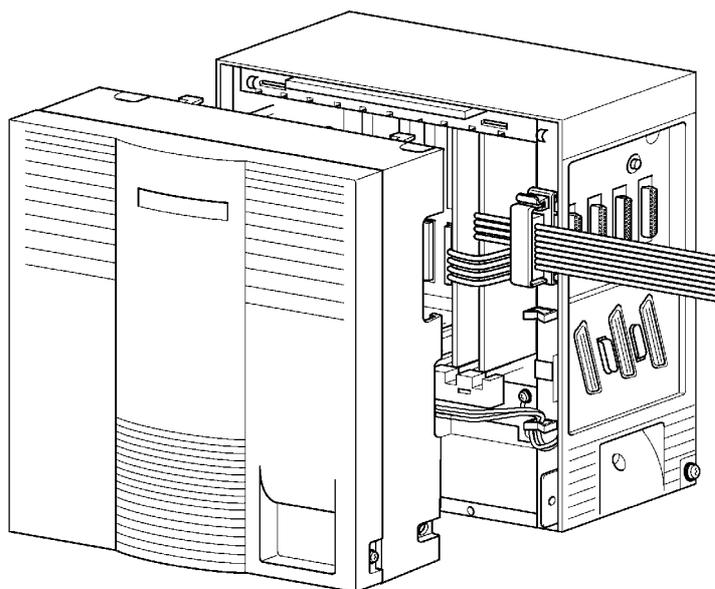

Figure 5-32 Front Cover Extender for VDH2(8)-U13 ETUs
- ① A maximum of 9 VDH2(8)-U13 ETUs can be installed in the Xen Master system (maximum of 72 ports), 3 per KSU in slots S1~S8.
- ① A maximum of 3 VDH2(8)-U13 ETUs can be installed in the Xen Axis system (maximum of 24 trunks), in slots S2~S7.
- ① The 10Base-2 ports on the VDH2(8)-U13 ETU use 4-wire polar cables.
- ① When connecting a VDH2(8)-U13 ETU to a multiline terminal, avoid using under-carpet cables because the device becomes susceptible to outside noises. It is better to use EIA/TIA round cables instead of flat cables. If under-carpet cables are used, you must follow the installation instructions provided by the cable manufacturer. Also consider these precautions:
- ① When connecting a VDH2(8)-U13 ETU, use the FCE-U13 Unit for proper wiring. Lead the cable connected to the ETUs out through the clamp on the KSU as shown in *Figure 5-32 Front Cover Extender for VDH2(8)-U13 ETUs*. Refer to *Installing a Front Cover Extender (FCE-U13 Unit)* in Chapter 4.